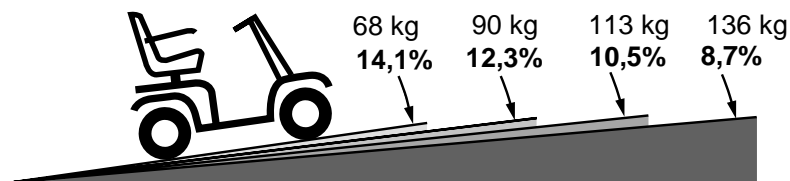

FIGURE 1. MAXIMUM RECOMMENDED INCLINE ANGLE FOR THE 3 WHEEL CYCLONE
Handicap public access ramps are not subject to government regulation in all countries, and therefore do not necessarily share the same standard percent of slope. Other inclines may be natural or, man-made, and not designed specifically for Scooters. Figures 1 and 2 illustrate your Cyclone's stability and its ability to climb grades under various weight loads and under controlled testing conditions.
**WARNING! Any attempt to climb or descend a slope steeper than shown in figures 1 and 2 may put your Scooter in an unstable position and cause it to tip, resulting in personal injury.**